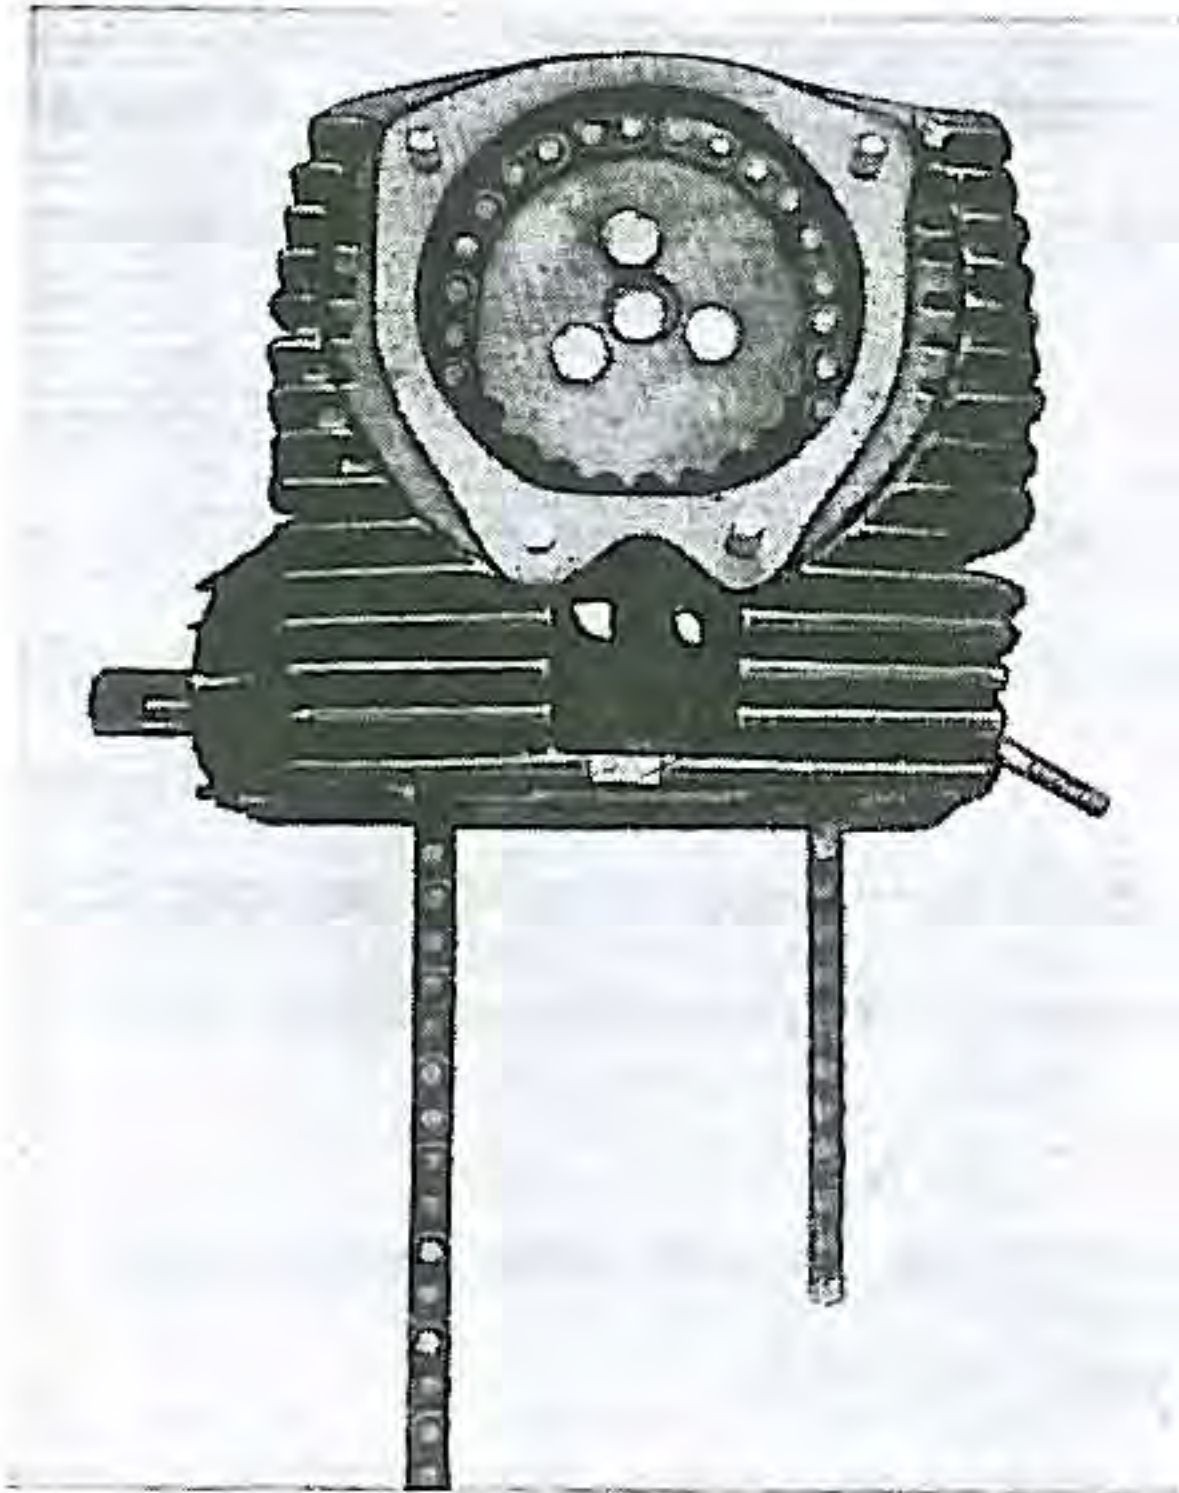

Fig. 44. Installation of cam chain to cylinder head
- (5) Fit one end of the cam chain onto the cam sprocket and rotate the sprocket until the inlet side of the chain hangs about 6" (15 cm) shorter than the other end. (Fig. 44)